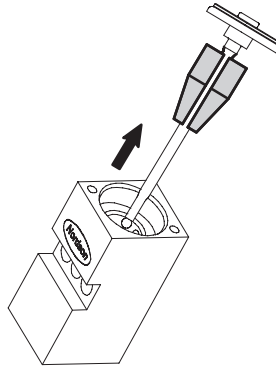

Figure 9-17 Removing the seal tool
8. See Figure 9-17. Remove the seal tool from the needle.